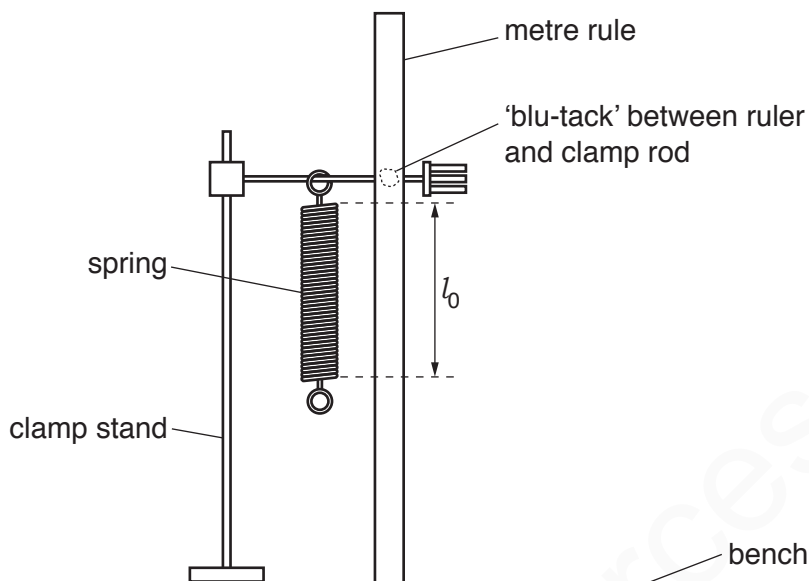

Fig. 1.1
Fig. 1.1 shows the apparatus used.
- (a) On Fig. 1.1, measure the unstretched length l_0 of the coiled part of the spring, in mm.
- (b) On Fig. 1.1, show how a set-square could be used to take readings in order to determine the length l_0 of the coiled part of the spring. [1]